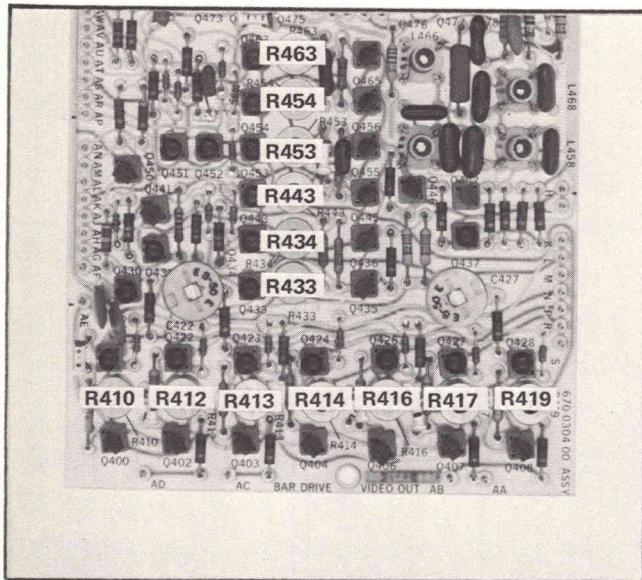

Fig. 5-26. Bar Drive and Video Out board adjustment locations.
d. **ADJUST—R410** (see Fig. 5-26), until the two displays just meet.
g. **ADJUST—R414** (see Fig. 5-26) until the two displays just meet.
i. **ADJUST—R433** (see Fig. 5-26) until the setup level of the lower display just aligns with the blanking level of the upper display.
h. **ADJUST—R463** (see Fig. 5-26) until the blue luminance level aligns with the blanking level.